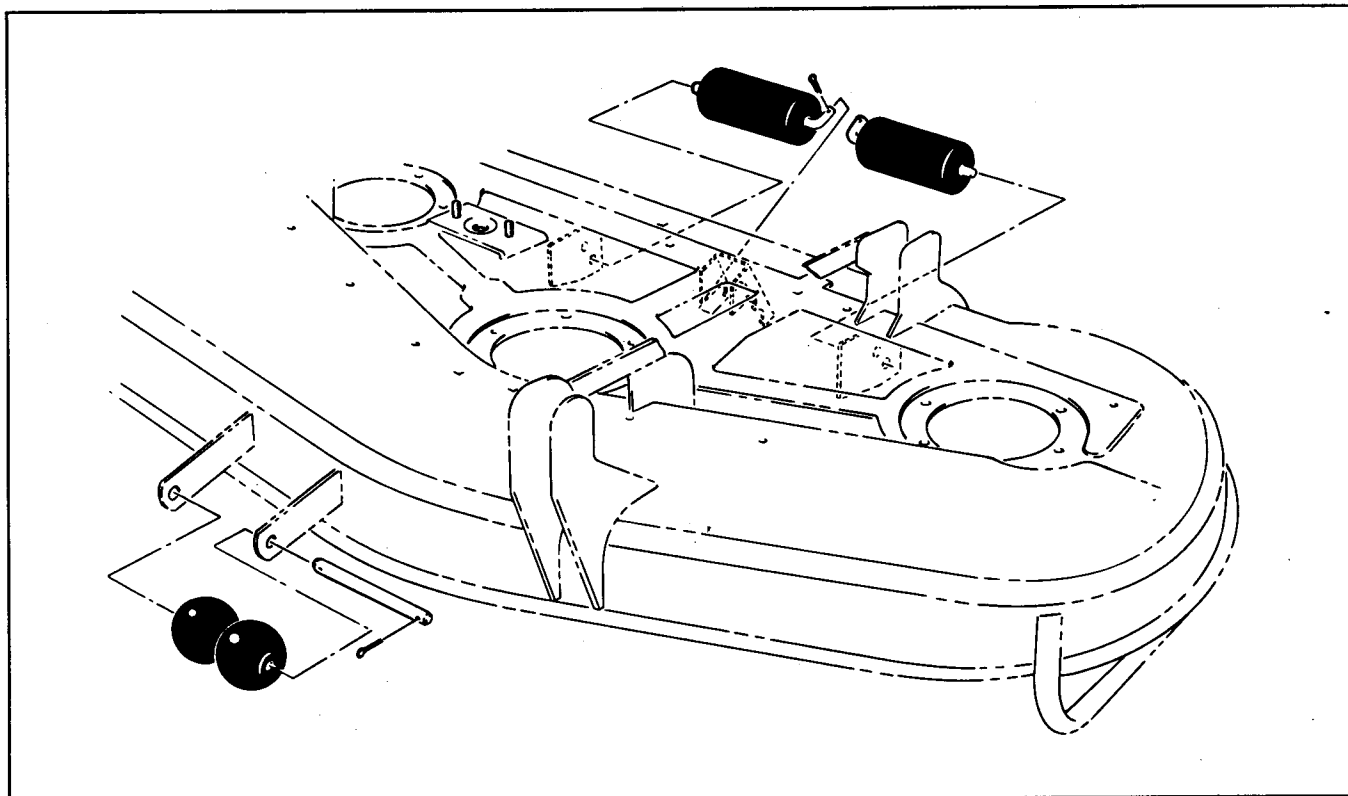

Figure 11
3. Remove one of the cotter pins that secure the roller shaft in place on the deck. Pull the roller shaft out of the deck through the roller(s) (Fig. 11).